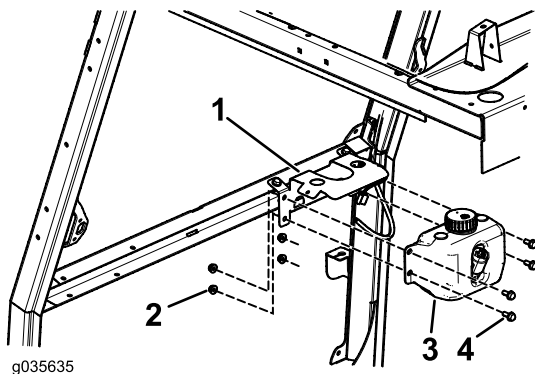

Figure 7
2. Install the tank to the bracket with 4 bolts (5/16 x 3/4 inch) and 4 flange nuts (5/16 inch) as shown in Figure 7.